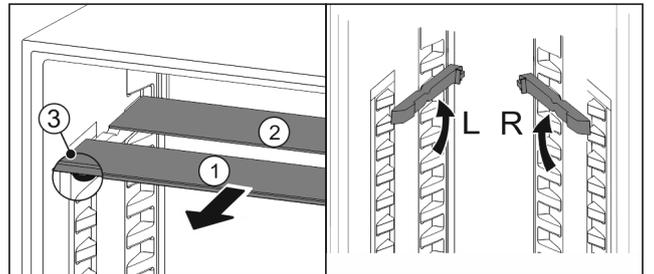

Fig. 17
- ▶ Pull the glass panels out Fig. 17 (1) from the front, one at a time.
- ▷ The glass panel Fig. 17 (1) with the trim strip is at the front.
- ▷ The stops Fig. 17 (3) point downward.